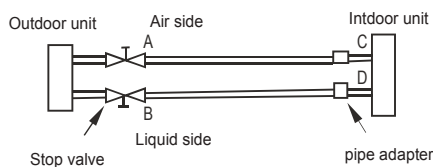
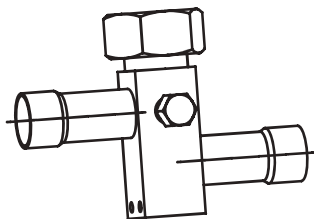

Fig.6-2
Fig.6-3
- Use the refrigerant in the outdoor unit to expel air(see Fig.6-2 and Fig.6-3)
- Use refrigerant tank to expel air (see Fig.6-2 and Fig.6-3 )